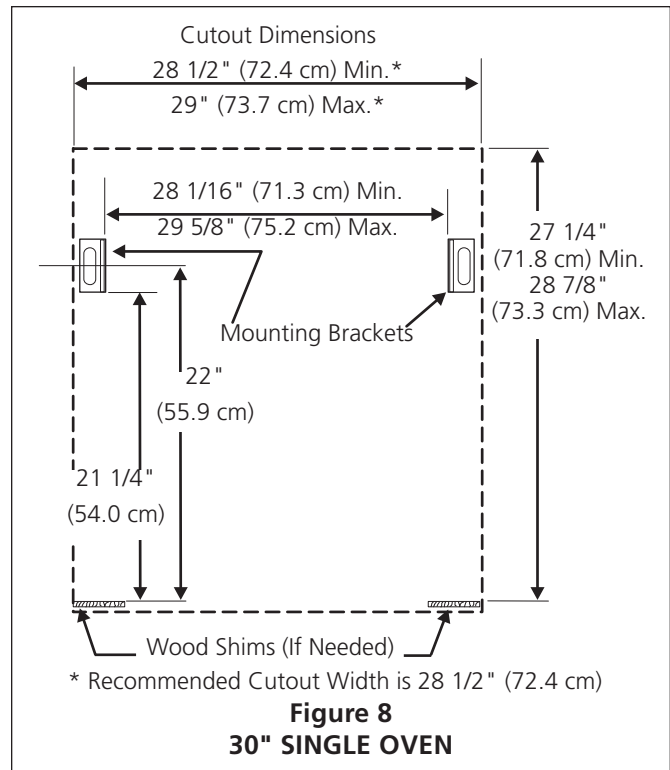

Figure 8
2. The mounting brackets are temporarily installed under the decorative side trims of the oven when shipped (see Figure 8 or 9 ). Remove the mounting brackets from the unit side frame using a No. 2 Robertson® screw driver (square drive preferred, however a No. 2 Phillips® or Quadrex® screw driver can also be used). Open the door to remove the screws, located at the upper end of the side trim.
3. Insert the unit into the cabinet opening. Slide unit inward leaving  $1 \frac{3}{8}$ " (3.5 cm) clearance between the oven decorative trim and cabinet. Pull the armored cable through the hole in the floor and toward the junction box while moving the appliance inward. Use the second set of holes in the side frame of the unit as a guide to find the position of the mounting brackets on the sides of the cabinet opening. Mark the position of the mounting brackets as shown in Figure 8 or 9.